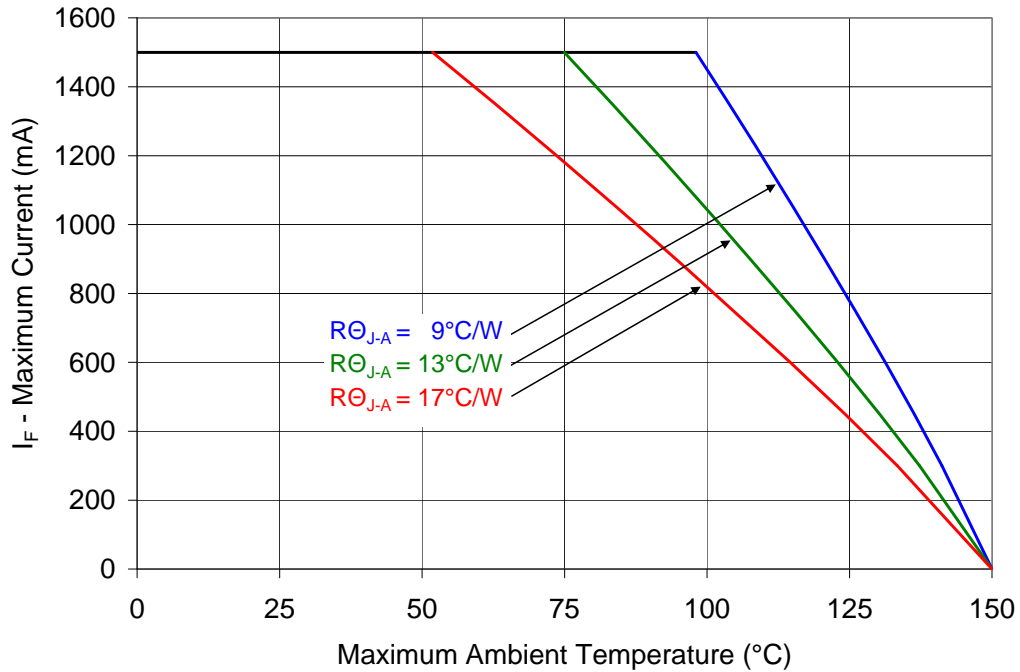

Figure 11: Maximum forward current vs. ambient temperature based on $T_{J(MAX)} = 150^\circ\text{C}$.
- Maximum DC forward current is determined by the overall thermal resistance and ambient temperature. Follow the curves in Figure 11 for current derating.
Notes for Figure 11: